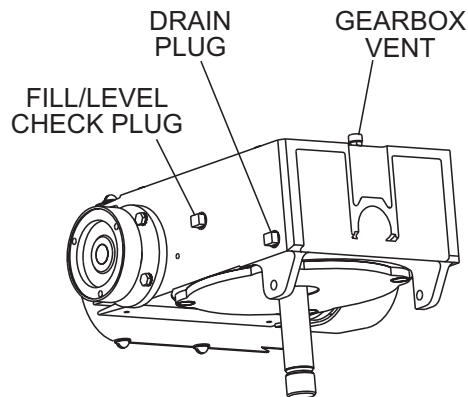

Figure 6. Gearbox Oil Plugs/Sight Glass
1. Check the gearbox oil level in both gearboxes by removing the level plug and ensuring that the oil is at the correct level. See Figure 6.
2. Fill the gear box just to the level of the fill plug. (Figure 6) with 69 oz. (2.041 L) of Multiquip gearbox lubricant, p/n 20111, ISO or equivalent.